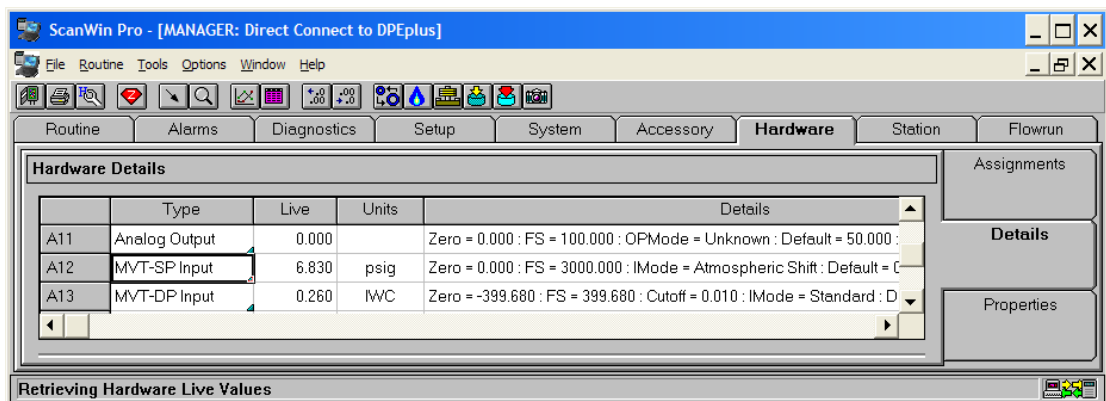

Figure 3.3—Live input readings in ScanWin (Hardware – Details page)
8. Verify the accuracy of the live input readings. The DPE+ live values can be found in the Hardware Details page of ScanWin (Figure 3.3). The input/output resources are the same as those established for the original DPE sensor. For example, Static Pressure is A12 and Differential Pressure is A13. Refer to Section 5 of this manual for more information on the DPE+ hardware.